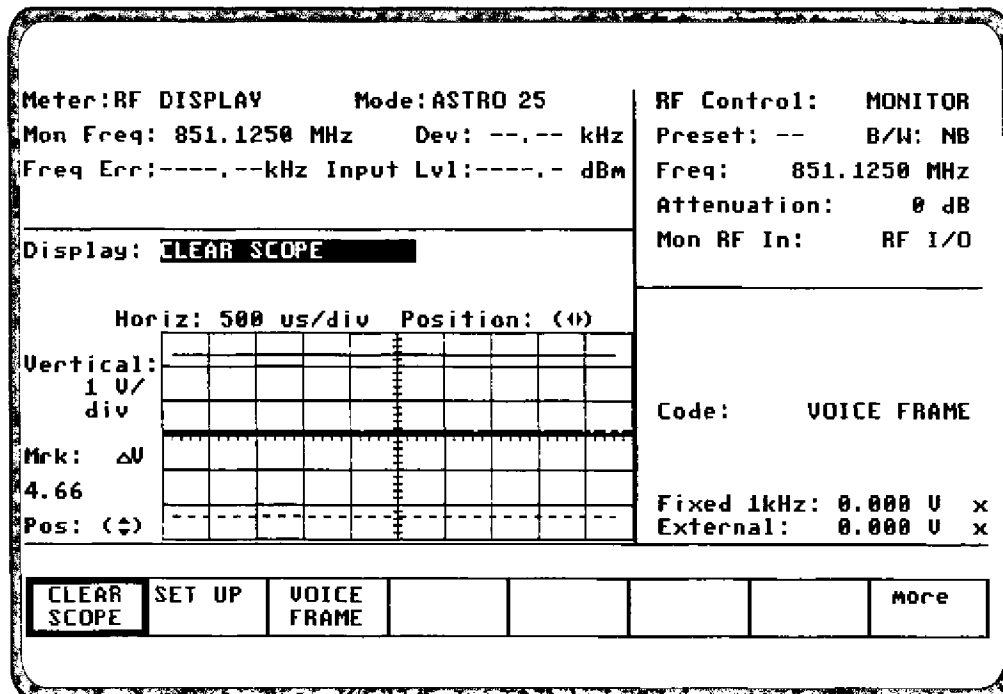

Figure 4-3. ASTRO 25 CLEAR SCOPE Display of Recovered Audio
7. Place cursor in the "Display:" field and press **CLEAR SCOPE** softkey. The CLEAR SCOPE screen should appear similar to Figure 4-3. No waveform is present until the transmitter is turned on.